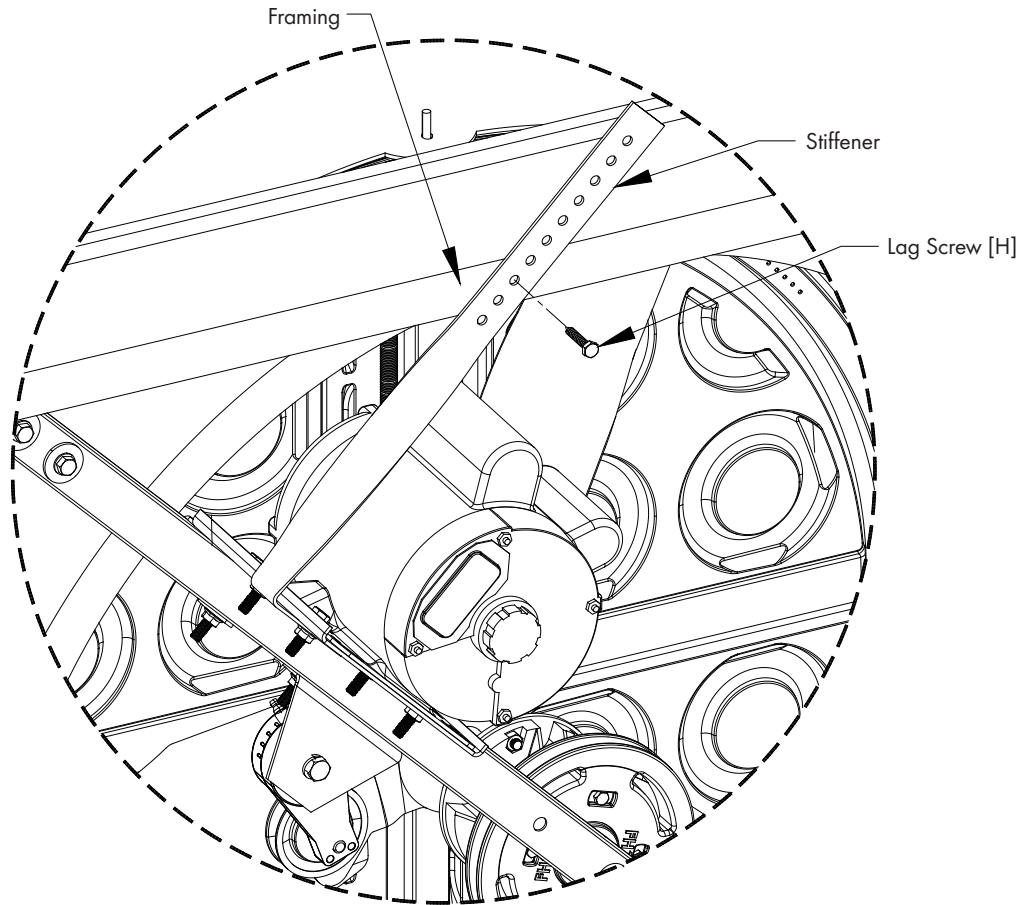

Figure 17B
Using channel locks and/or a hammer twist the Motor Bracket Stiffener so that the holes in the bracket lay flat against the framing. Then secure the bracket to the framing using (1) Lag Screw [H]. See Figure 17B.